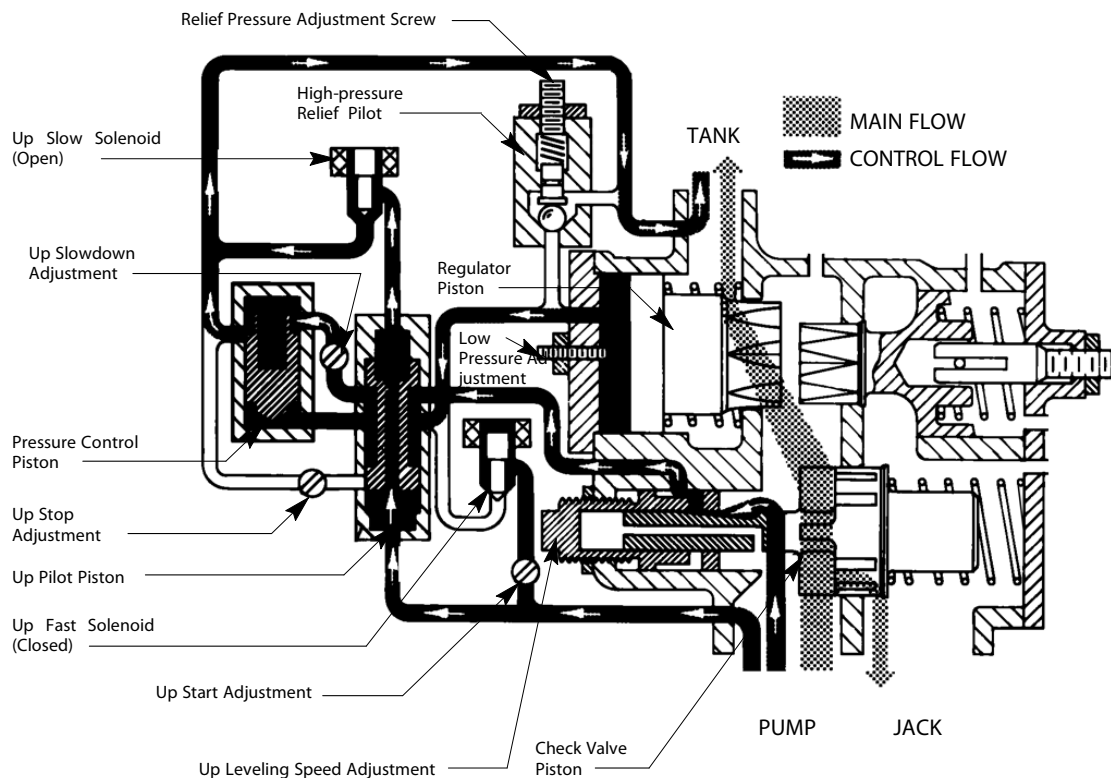

Figure 9 - Up Slowdown and Leveling Speed Diagram
1. From slowdown to leveling speed, the up fast solenoid is de-energized and the up slow solenoid is energized. See Figure 9.